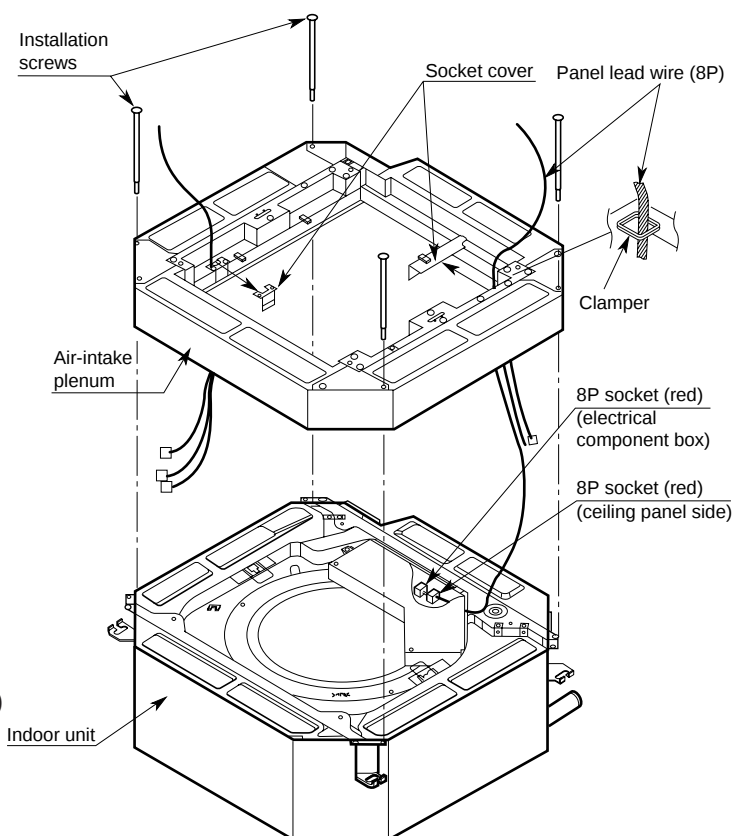

Fig. 2-17
- Set the air-intake plenum to the indoor unit taking care not to set the incorrect direction. (Fig. 2-17)
- Fasten the air-intake plenum with the accessory screws. (M5 × L125, 4pcs) (Fig. 2-17)
- Remove the socket cover of the air-intake plenum and pass the 8P sockets through it. (Fix the panel lead wire to chamber side clamber.) (Fig. 2-17)